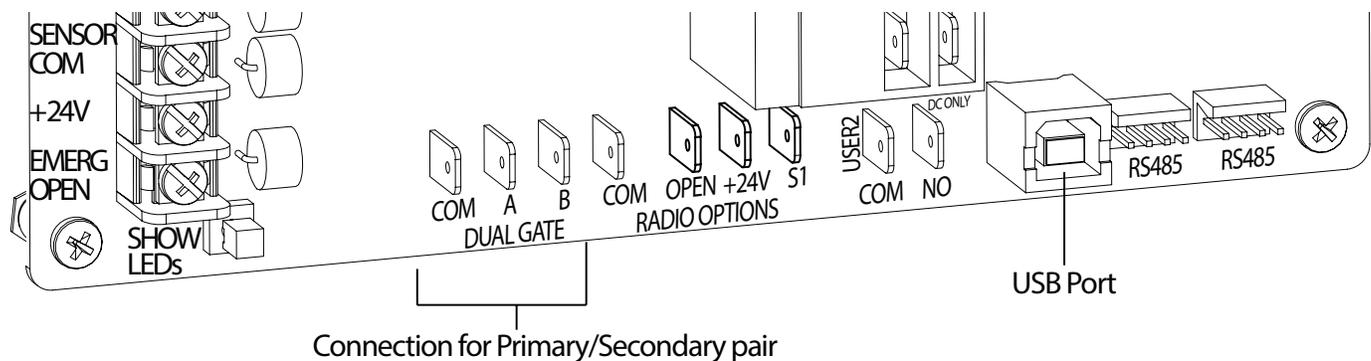

Figure 54. Primary-Secondary Pair
Configuring two operators to be a Primary and Secondary pair is easy with the Smart DC Controller. There is no need to order a special model or any adapters. The area of the board marked Dual Gate employs a 3-wire RS-485 serial port for communication between primary and secondary operators. See Figure 54.
- An electrical conduit for interconnecting wires must span between the two operators. The dual gate communication wires and any low voltage control wires must be installed in a conduit that is separate from the high voltage power wires. See Table 16 and Figure 54.